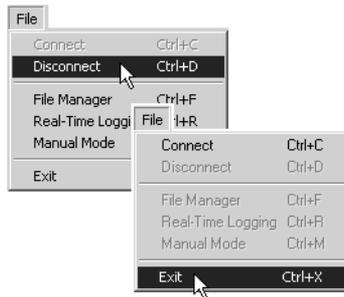

Figure 4-11. Click **Disconnect** then **Exit**
8. Continue with other operations. Or, click **File->Disconnect**, then **File->Exit** to quit PC-CDU (Figure 4-11).